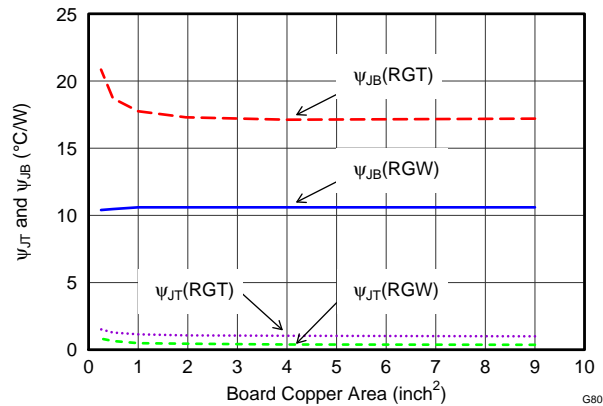

Figure 43. Ψ_{JT} and Ψ_{JB} vs Board Size
By looking at Figure 43, the new thermal metrics (Ψ_{JT} and Ψ_{JB}) have very little dependency on board size. That is, using Ψ_{JT} or Ψ_{JB} with Equation 3 is a good way to estimate T_J by simply measuring T_T or T_B, regardless of the application board size.
- Added RGT package to Figure 43 20